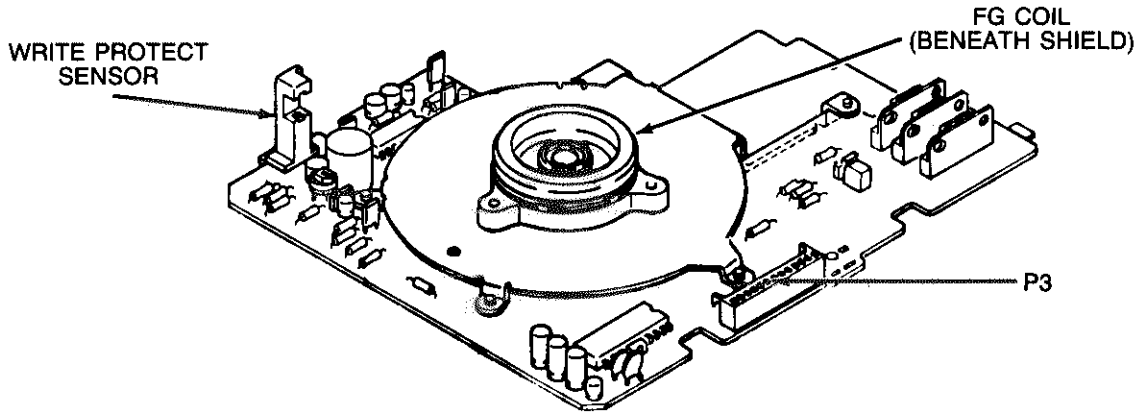

FIGURE 2-92. MOTOR CONTROL BOARD
2.6.3 Disk Drive Motor and Motor Control Board (Figures 2-92 and 2-93)